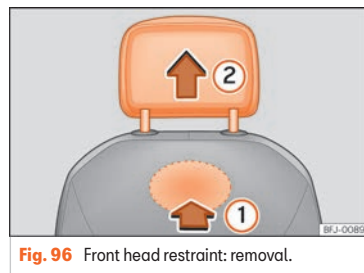

Fig. 96 Front head restraint: removal.
- To unlock it, look for the rabbit on the bottom of the backrest and press in the direction of the arrow » Fig. 96 ①.
- Remove the head restraint in the direction of the arrow ②.